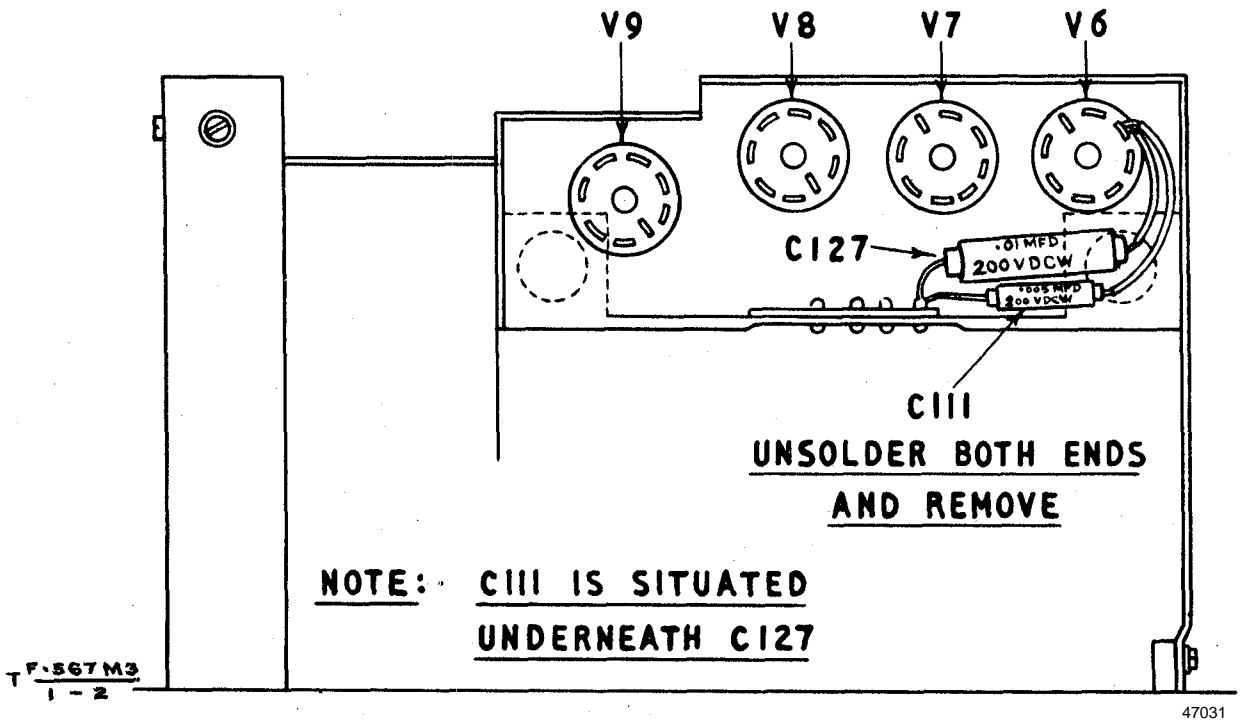

Fig 2 - Location of C111 and C127
- (m) Strike through the figure 2 on the receiver modification record plate.
- (d) Locate and remove capacitor C111 (0.005 μ F), which is connected between pin 2 of the valve holder V6 and the terminal plate, and lies underneath capacitor C127 (0.01 μ F) (see Fig 2). Discard the capacitor.